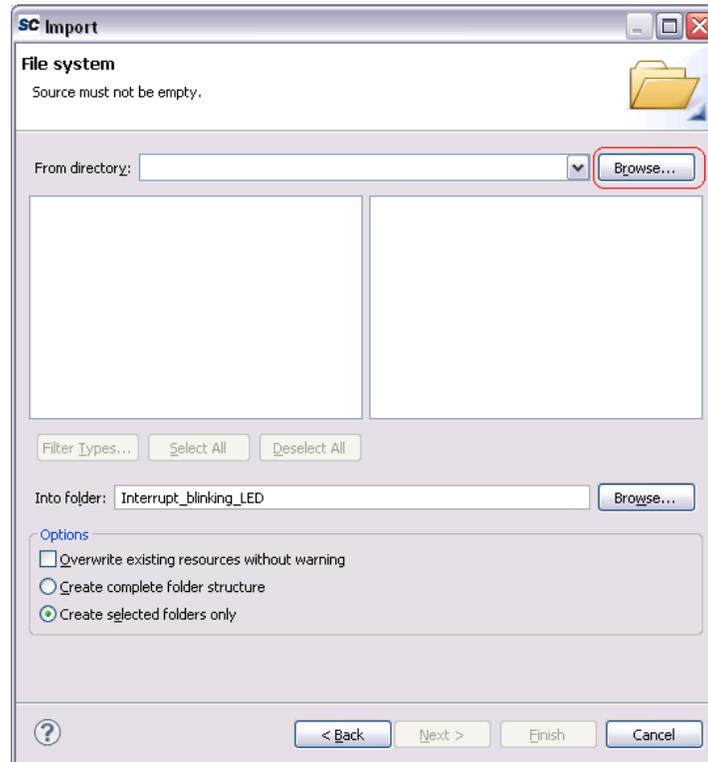

Figure 21 Open the Project Path
3. Click **Browse** to open the project path, as shown in Figure 21.